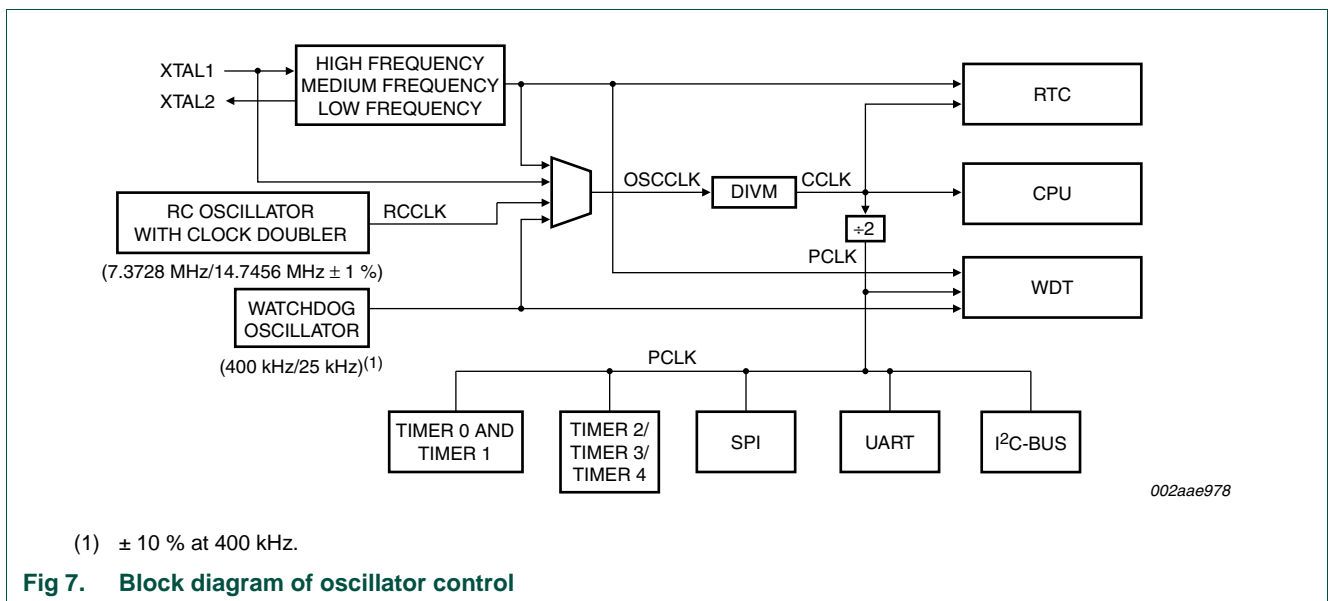

Fig 7. Block diagram of oscillator control
**OSCCLK** — Input to the DIVM clock divider. OSCCLK is selected from one of four clock sources and can also be optionally divided to a slower frequency (see Figure 7 and Section 2.10 “CPU Clock \(CCLK\) modification: DIVM register”). **Note:**  $f_{osc}$  is defined as the OSCCLK frequency.